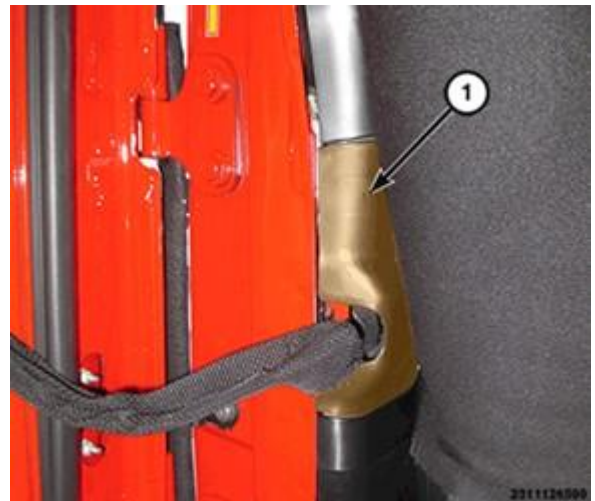

Figure 13 – B-pillar Trim Cover
20. Using a trim stick, release and remove the B-pillar trim cover (1) (Figure 13).